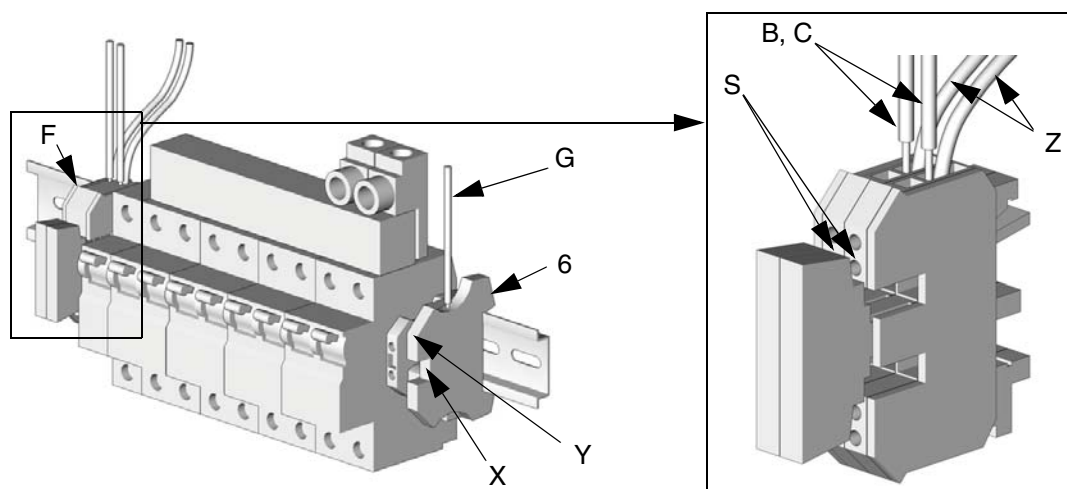
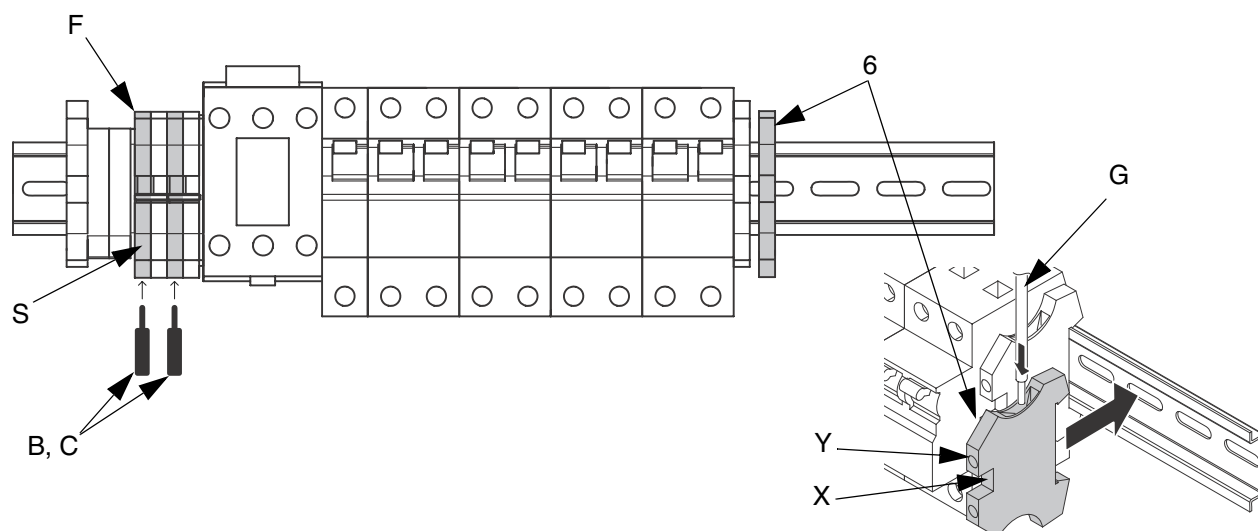
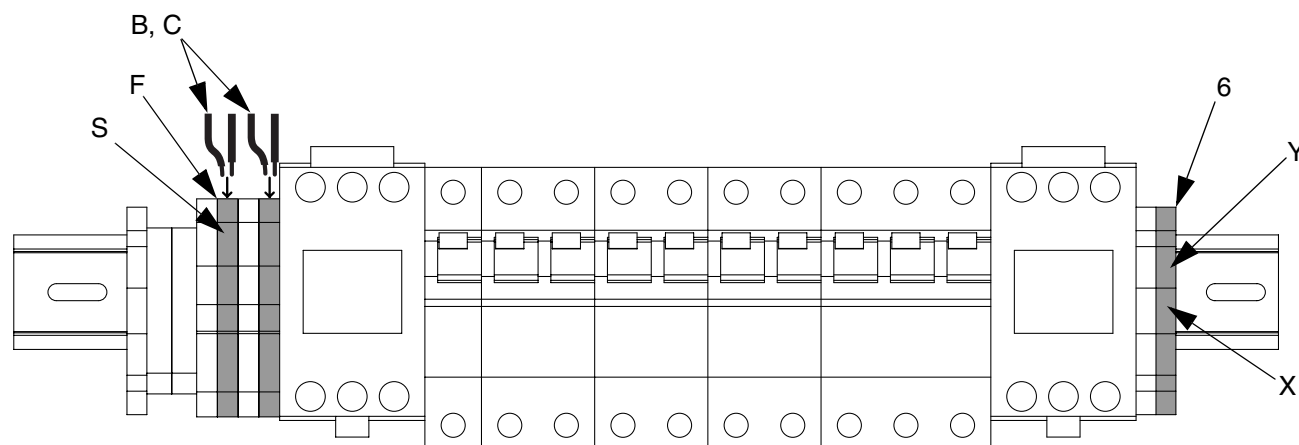

FIG. 1: Electric Reactor DIN Rail Style 1
FIG. 2: Electric Reactor DIN Rail Style 2
FIG. 3: Hydraulic Reactor DIN Rail Style 3
- Find the DIN rail inside of the Reactor cabinet. See FIG. 1, FIG. 2, or FIG. 3 on page 5.
- Electric Reactors only,* see FIG. 1 and FIG. 2 on page 5 to identify whether your system uses style 1 or style 2 of DIN rail.
- Insert green grounding wire (G) from control box into grounding terminal block (6) supplied with kit, then tighten screw (Y) to secure wire.
- Install grounding terminal block (6) onto right end of DIN rail then tighten center screw (X) to secure in place. See FIG. 1 for DIN rail style 1 or FIG. 2 for DIN rail style 2.
- For hydraulic Reactors,* loosen screws (S) then insert black power wires (B, C) into the top of the highlighted terminal blocks (F) shown in FIG. 3. Tighten screws (S).
For electric Reactor DIN rail style 1, insert black power wires (B, C) into the bottom of the highlighted terminal blocks (F) shown in FIG. 2. Tighten screws (S).
For electric Reactor DIN rail style 2, loosen screws (S) then insert black power wires (B, C) into same slots as existing wires (Z) as shown in FIG. 1. Tighten screws (S).